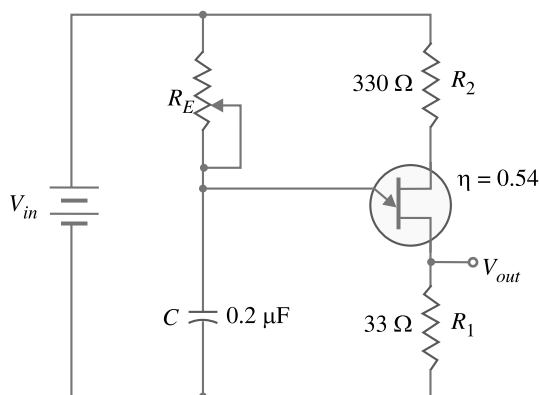

Fig. 19.33
**Example 19.12.** The circuit shown in Fig. 19.33 uses variable resistor  $R_E$  to change the frequency of pulses delivered at  $V_{out}$ . The variable resistor is initially set at  $5\text{ k}\Omega$  and is then adjusted to  $10\text{ k}\Omega$ . Determine the frequency of the voltage spikes produced for (i)  $5\text{ k}\Omega$  setting and (ii)  $10\text{ k}\Omega$  setting.